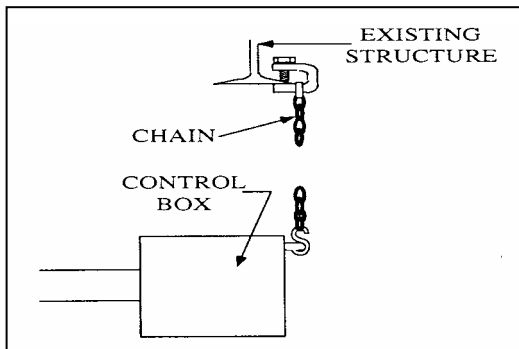

Figure 2-5
2. Use of number 1 double loop chain is recommended for heater hanging (Accessory No. THCS). See Figure 2-5.